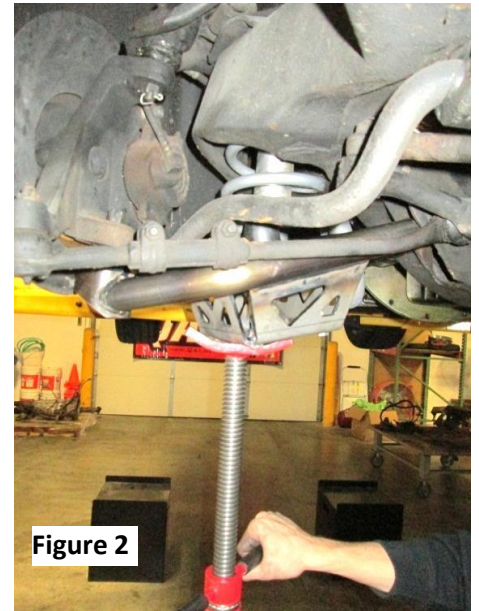

Figure 2
- Support the lower control arm with a jack to take weight off of the droop stop. See **Figure 2**.